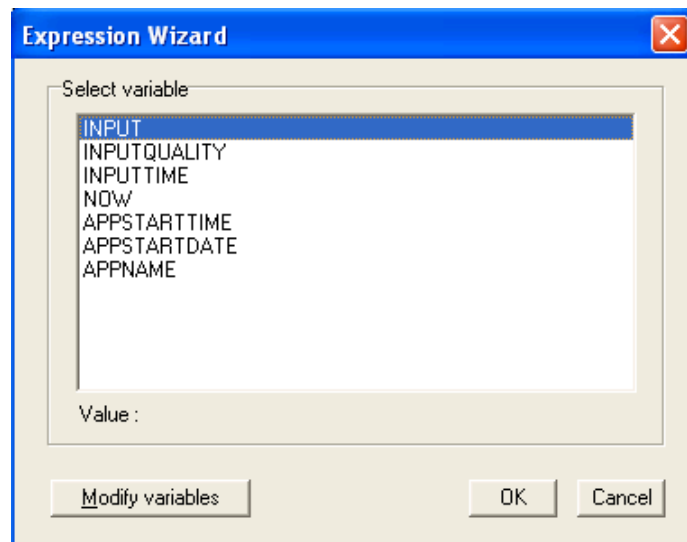

Figure 30 - Select Variable Window
11. Click on the **Variable** button to go to the **Select variable** (Figure 30) window. After selecting the required variable, click on the **OK** button to close the **Select variable** window and return to the **Expression Wizard**.